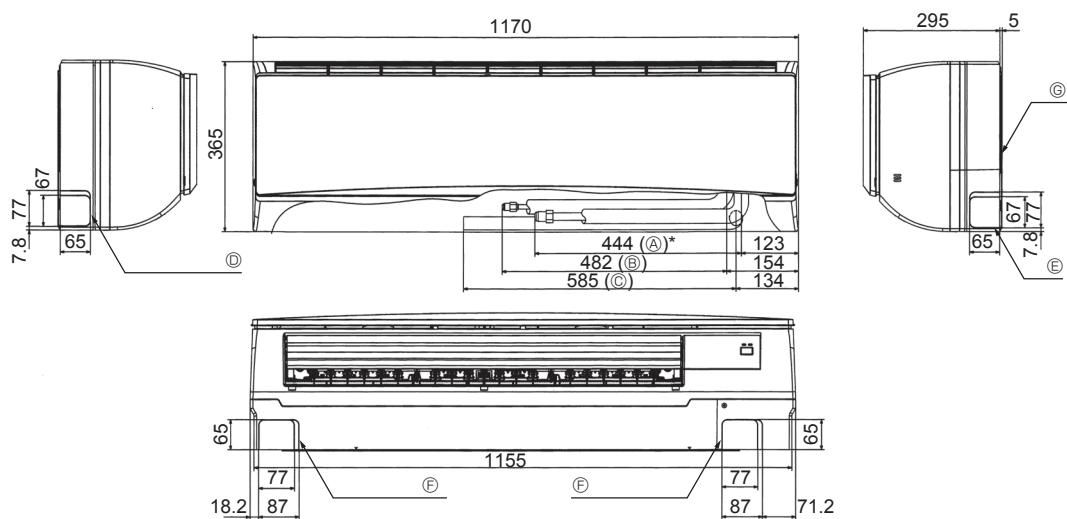

Fig. 4-3
4.4. Positioning refrigerant and drain piping (Fig. 4-3)